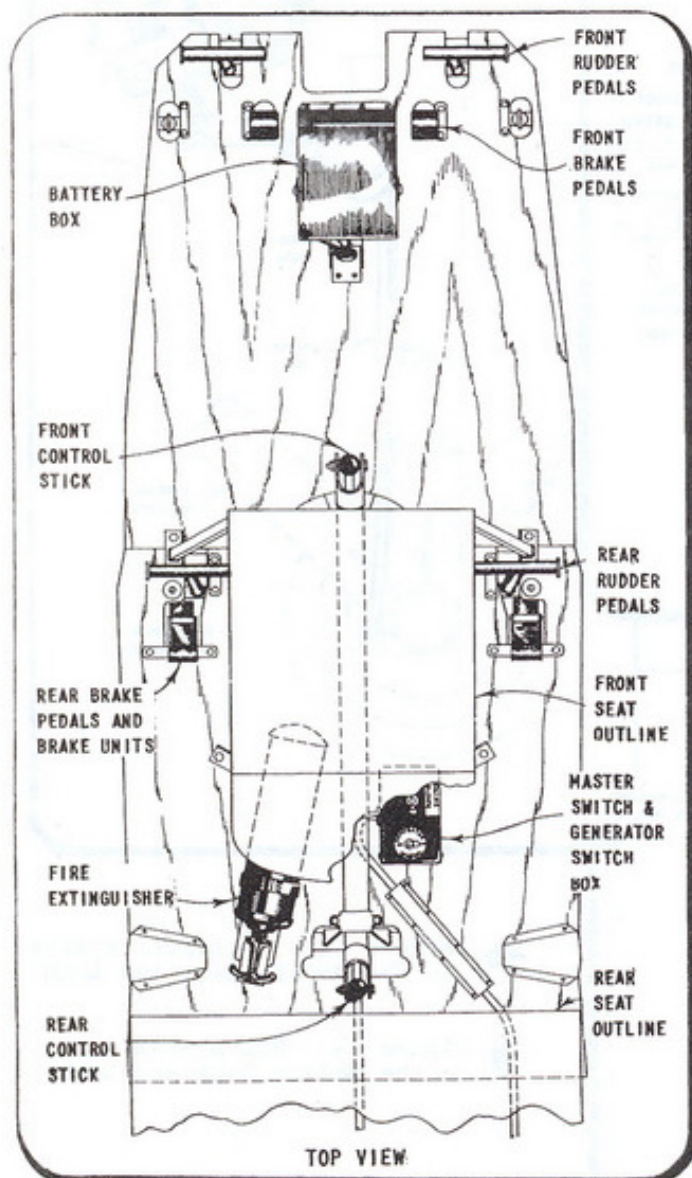

Figure 16 -
g. The Floor. (See figure 16.)
(1) Conventional dual rudder pedals which operate the rudder are fairly simple. See that rudder pedal return springs are operating to bring the pedal back in position when foot pressure is relinquished. The dual brake pedals are of the heel type, located beneath the rudder pedals. They are individually actuated and of the hydraulic type. Pressure applied by the pilot impedes or stays the turning motion of the wheels. (See figures 16, 17, and 20.) The pedals are mounted on a bearing shaft which is located under the floor. (See figure 20.) Pressure on the pedal is transmitted through